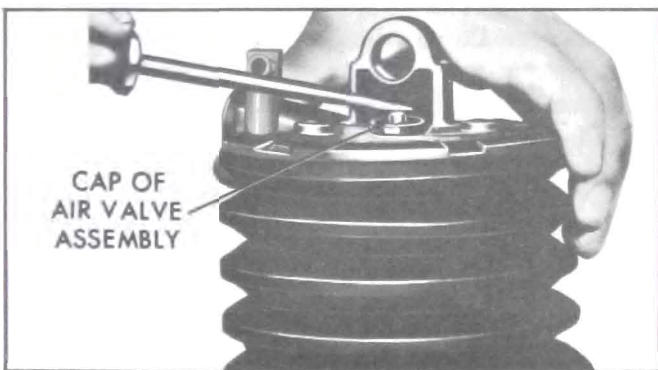

Figure 9-35—Testing Air Valve Operation
6. Remove unit from vise, invert and test air valve operation as shown in Figure 9-35. Using the flat of a screw driver, press air valve button inward. Two definite stages of movement should be felt. In the first stage, only the air valve control spring is being compressed; in the second stage, the resistance of the vacuum valve spring is added. The step from stage one to stage two can be felt if the valves have been correctly assembled. When pressure is released, the valve should snap back readily.